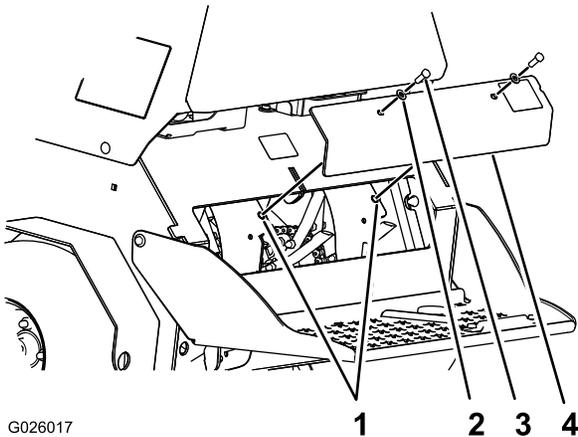

Figure 62
3. Remove the 2 bolt (3/8 x 1 inch) and 2 washers (3/8 inch) that secure the rear-cover panel to the chassis, and remove the panel (Figure 62).
6. Align the holes in the rear-cover panel to the holes in the chassis (Figure 62).
7. Secure the cover panel to the chassis with the 2 bolts and 2 washers (Figure 62) that you removed in step 3, and torque the bolts to 37 to 45 N-m (27 to 33 lb-in)